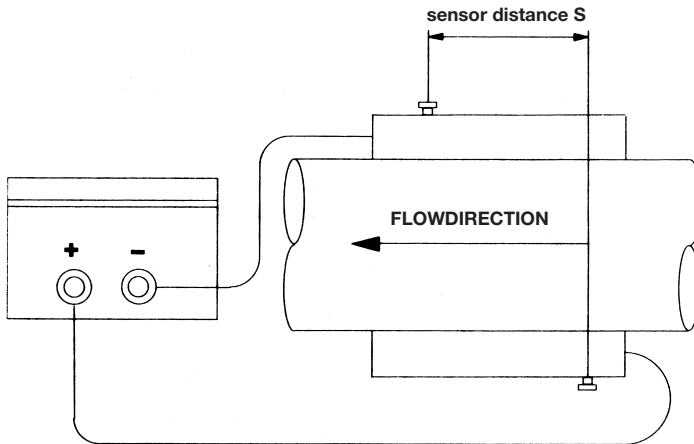

Fig. C.5 : Upstream and downstream connection
- The cable connections at the transducers must always point away from each other (fig. C.5).